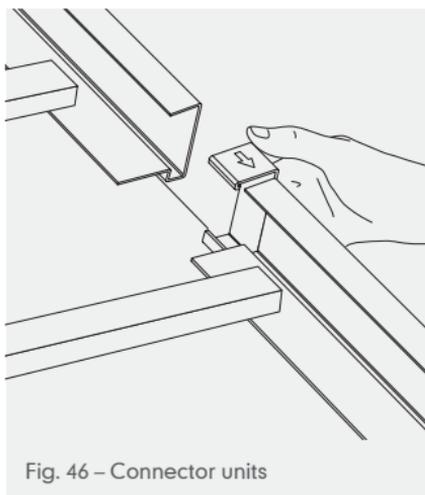

Fig. 46 – Connector units
- 5 Where necessary, a connector unit is fitted at joints between extrusions (Fig. 46).